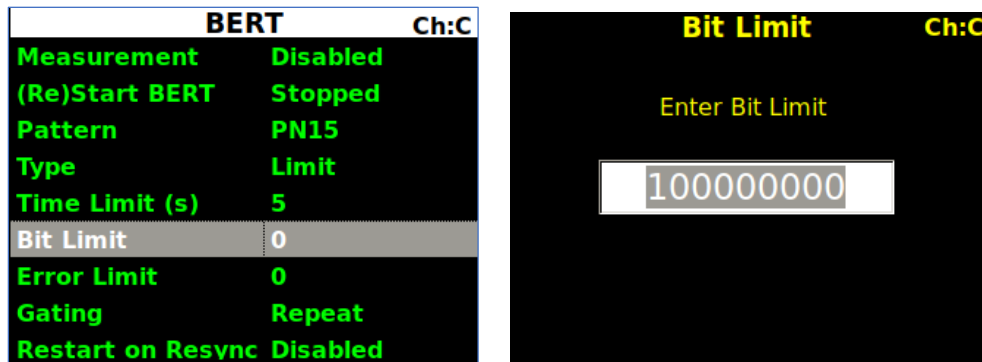

Figure 138: BERT, Bit Limit
- Bit Limit - Sets a specific number of total received bits, as shown in Figure 138; the measurement completes when the selected number of bits has been received